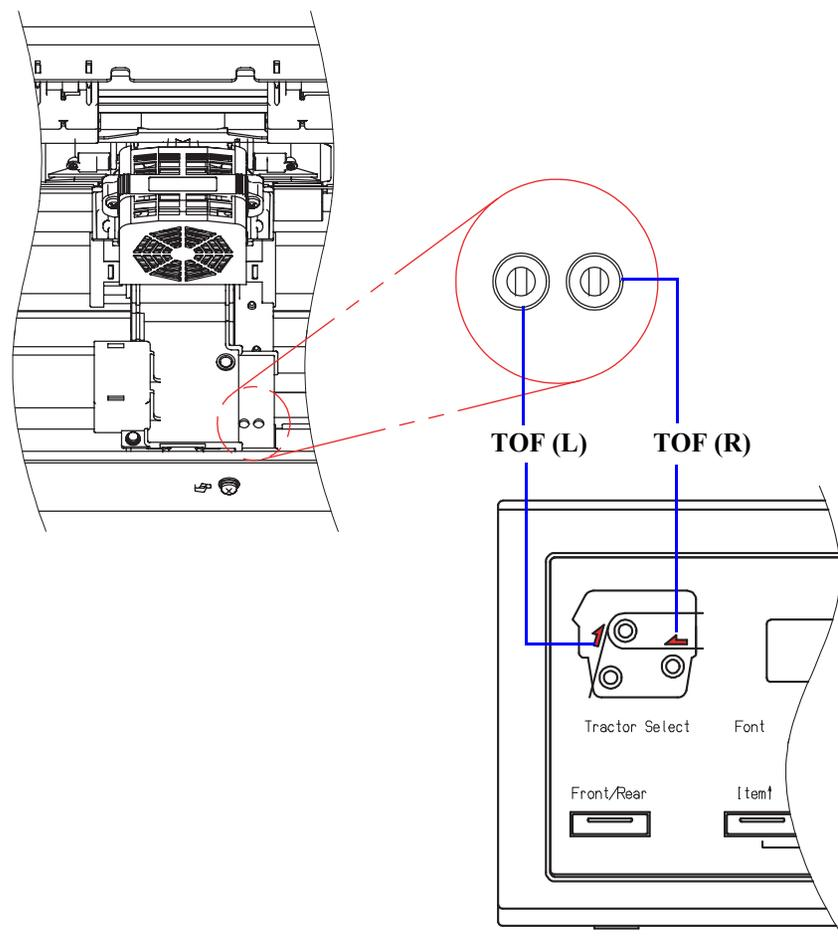

Figure 5-19. Location of TOF Signal Adjustment Screws
- Locate the two variable resistor (VR) signal adjustment screws on the CARRIER UNIT. See Figure 5-19.
- For each variable resistor adjustment screw: First turn it counter-clockwise until it stops. The corresponding LED (See Figure 5-19) is not lit. Slowly turn the screw clockwise until the LED lights and stays on.